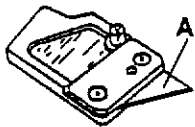

Figure 1
The mat/mount/foam board **PILLAR POST**, (Figure 1) uses a special blade (A), 10 included. Replacements are available as Part No. 2431. Replace a blade by removing the two hex head screws, and the cover plate. Position a new blade with its notch, (B) in Figure 2, engaged with the pin, then replace the cover and screws.